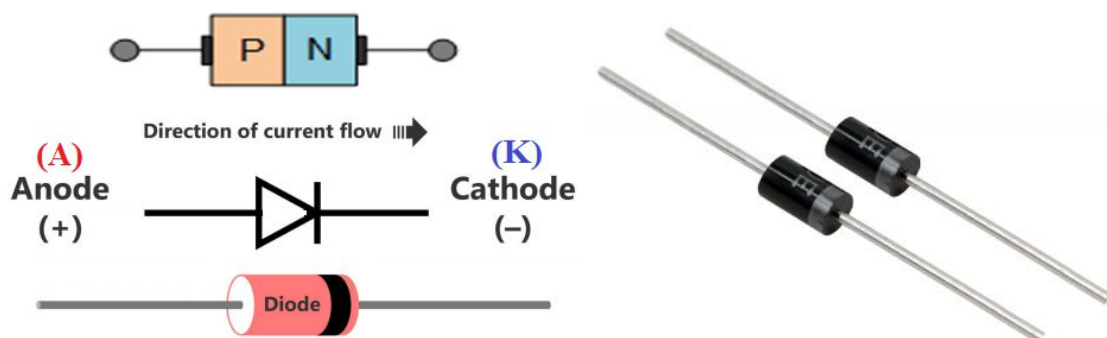

Fig.2.1: Semiconductor Diode
A diode is made from a small piece of semiconductor material, in which half is doped as a **p region** and half is doped as an **n region**. The p region is called the **anode (A)** and is connected to a conductive terminal. The n region is called the **cathode (K)** and is connected to a second conductive terminal. The basic diode structure and schematic symbol are shown in Fig.2.1.